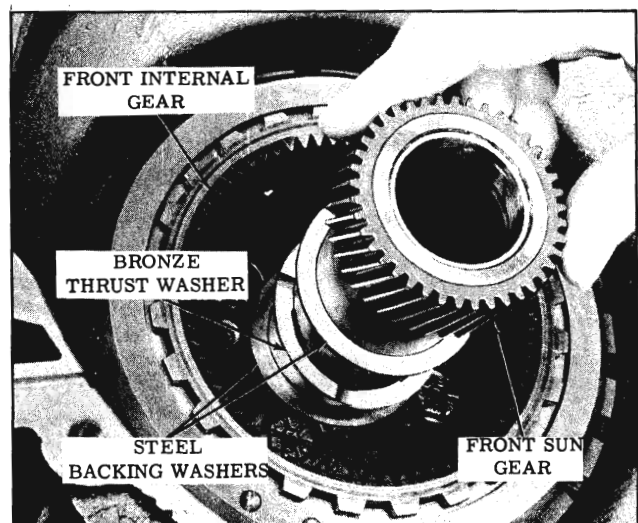

Fig. 3-295 Sun Gear Washers
13. Install steel backing washer, bronze thrust washer, steel backing washer and sun gear on front sun gear shaft. (Fig. 3-295)